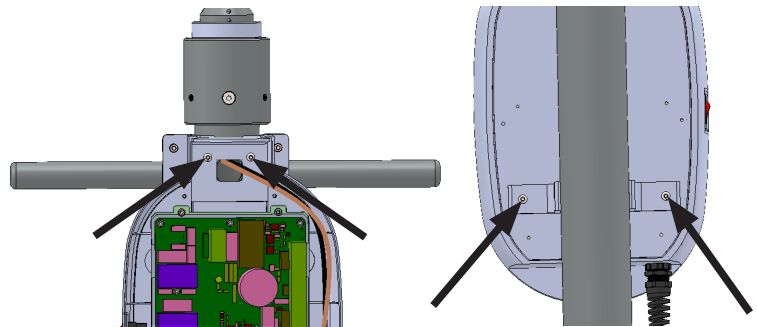

Figure 13: Fix 4 M4x16 screws using 2.5mm Allen key
- Fix the base unit plate to the base column with 4 M4X16 Hex Socket head cap screws with plane washer & spring washer(2 on front side and 2 on rear side of base unit) using 3 mm allen key as shown in Figure 13.